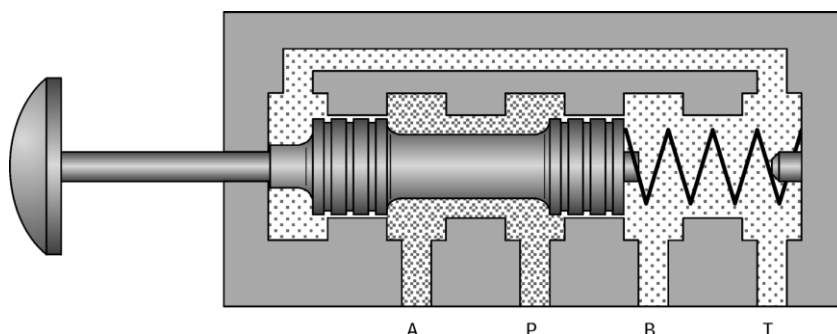

FIG 4.
A. The 4/2-way directional control valve has two working ports (A and B), a pressure port (P) and a tank connection (T). The 4/2 way directional control valve is manual operated with spring return. Note that it's possible for the two positions to be changed around. (Fig 4)